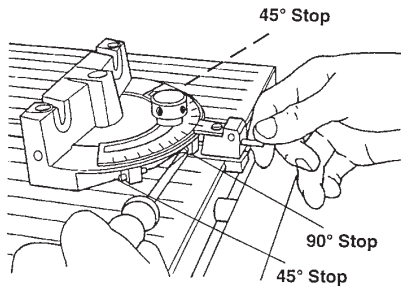

Figure B-85
- 54 Use a small screwdriver to back out the 90° stop screw 2 to 3 turns, as shown in Figure B-85.